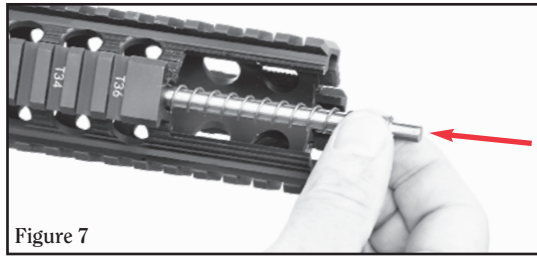

Figure 7
1. Slide the transfer rod into the transfer rod spring and then insert those parts into the handguard through the front bushing and into the rear bushing (see Fig. 7).